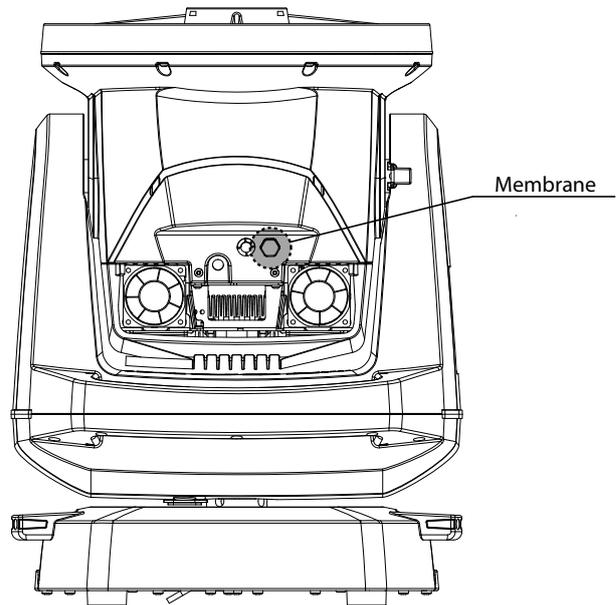

Figure 35: Membrane
5. The membrane is located at the right (figure 35).